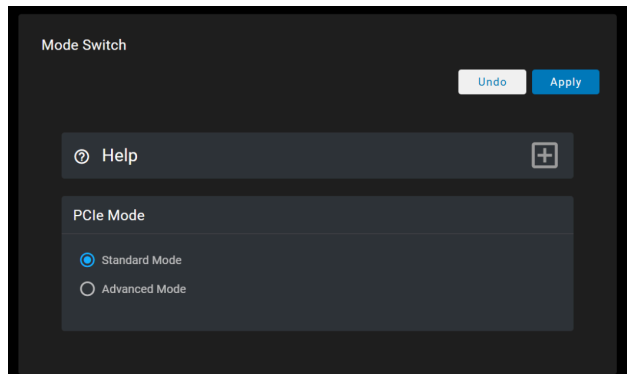

Figure 94. Selecting Standard or Advanced Mode
- B. Refer to Figure 94 for selecting the PCIe Mode.